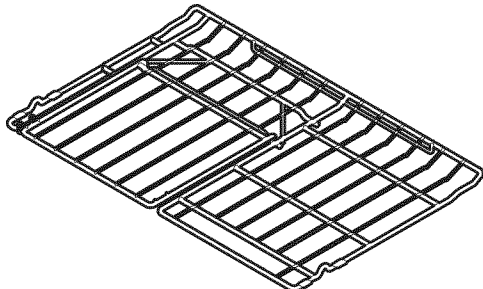

Figure 3
- **Flat oven half rack** (Figure 3 & 4 - Some models).